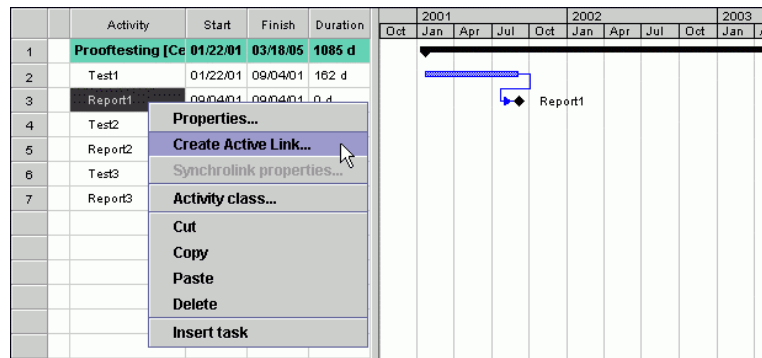

Figure 79: Creating an Active Link using the context menu.
1. Select the milestone for which you want to request a service. Choose the menu command *Links* → *Create active link* (Alternatively in the Java user interface. Click the right mouse button on the milestone and choose *Create active link* in the context menu, Figure 79).